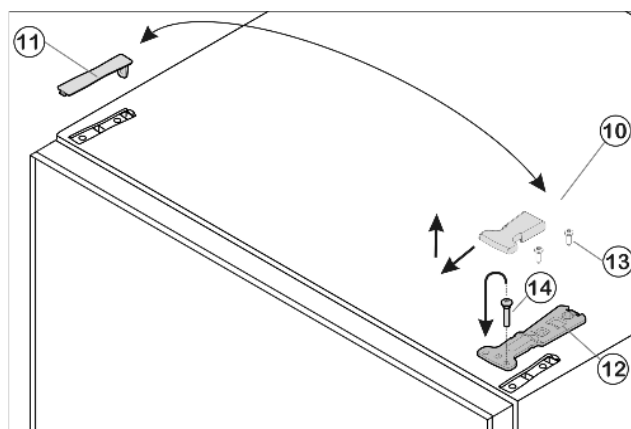

Fig. 27
- Pull cover *Fig. 27 (10)* forward and then upwards to remove.
- Lift off cover *Fig. 27 (11)*.
- Unscrew upper bearing bracket *Fig. 27 (12)* (2 x Torx 25) *Fig. 27 (13)* and pull it upwards to remove.
- ▶ Move bearing pin *Fig. 27 (14)* in upper bearing bracket to other side *Fig. 27 (12)*.
- ▶ Insert the upper bearing bracket *Fig. 27 (12)* on the new hinge side into the door.
- ▶ Secure upper bearing bracket *Fig. 27 (12)* (2 x Torx 25) *Fig. 27 (13)*. Make preliminary holes (optional) or use a cordless screwdriver.
- ▶ Snap both cover *Fig. 27 (10)* and cover *Fig. 27 (11)* into place on the opposite side.